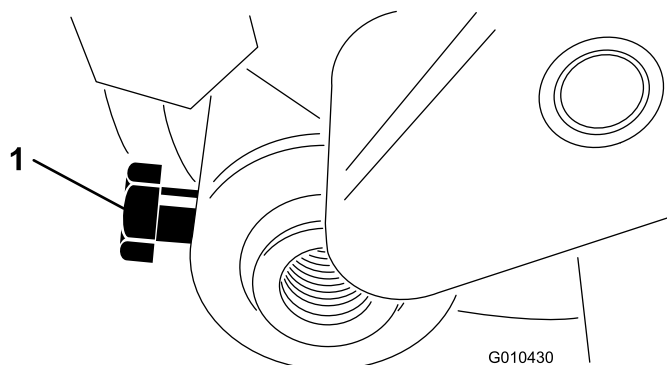

Figure 16
9. Insert the roller shaft into the left adjuster-arm assembly and loosely secure it with a bolt (M6-1 x 12 mm) as shown in Figure 16.
4. Center the roller between the adjuster arms and tighten the mounting bolts (see Figure 16).